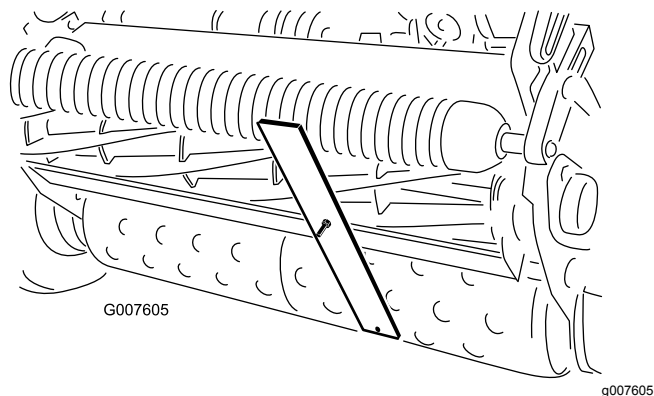

Figure 51
4. Hook the screw head on the cutting edge of the bedknife and rest the rear end of the bar on the rear roller (Figure 51).